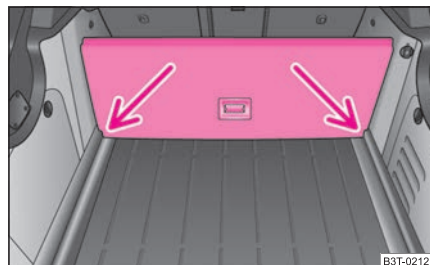

Fig. 82 Luggage compartment: Separation of the luggage compartment
- Lift up a part of the floor with the holder and secure it by moving it into the grooves marked by arrows ⇒ page 82, fig. 82. ■